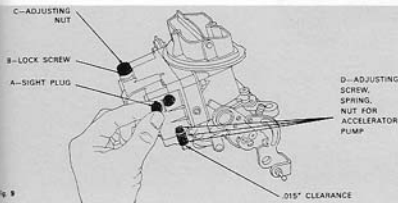

Fig. 9
5. **FLOAT LEVEL ADJUSTMENT**—Remove three sight plugs (Figure 9-A). Start engine. Observe fuel level through sight plug openings. *Correct fuel level is even with bottom threads in the sight plug ports—plus or minus 1/16".* If fuel level is incorrect, loosen lock screw (B) on affected carburetor. To raise fuel level, turn adjusting nut (C) below lock screw counterclockwise. Note: 1/6 turn will raise fuel level about 1/16". Turn the nut clockwise a like amount to lower fuel level. Allow the engine to idle a minute for the fuel level to stabilize. Tighten lock screw when fuel level is correct, replace sight plugs and air cleaner.
6. **ACCELERATOR PUMP**—With the engine off, block throttle lever in the wide-open position and hold pump lever screw down. Adjust clearance between adjusting nut and pump arm to .015" (Figure 9-D). Turn nut or screw as required. After adjustment, return throttle lever to normal closed position. Then move the throttle rod slightly. Rod should move accelerator pump lever without slack.